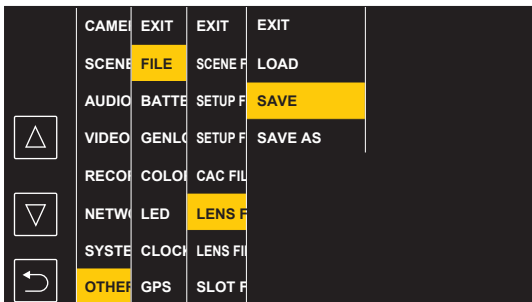

Fig. 1
- 1 Select the [OTHERS] menu → [FILE] → [LENS FILE(SD CARD)] → [SAVE]. (Fig. 1)